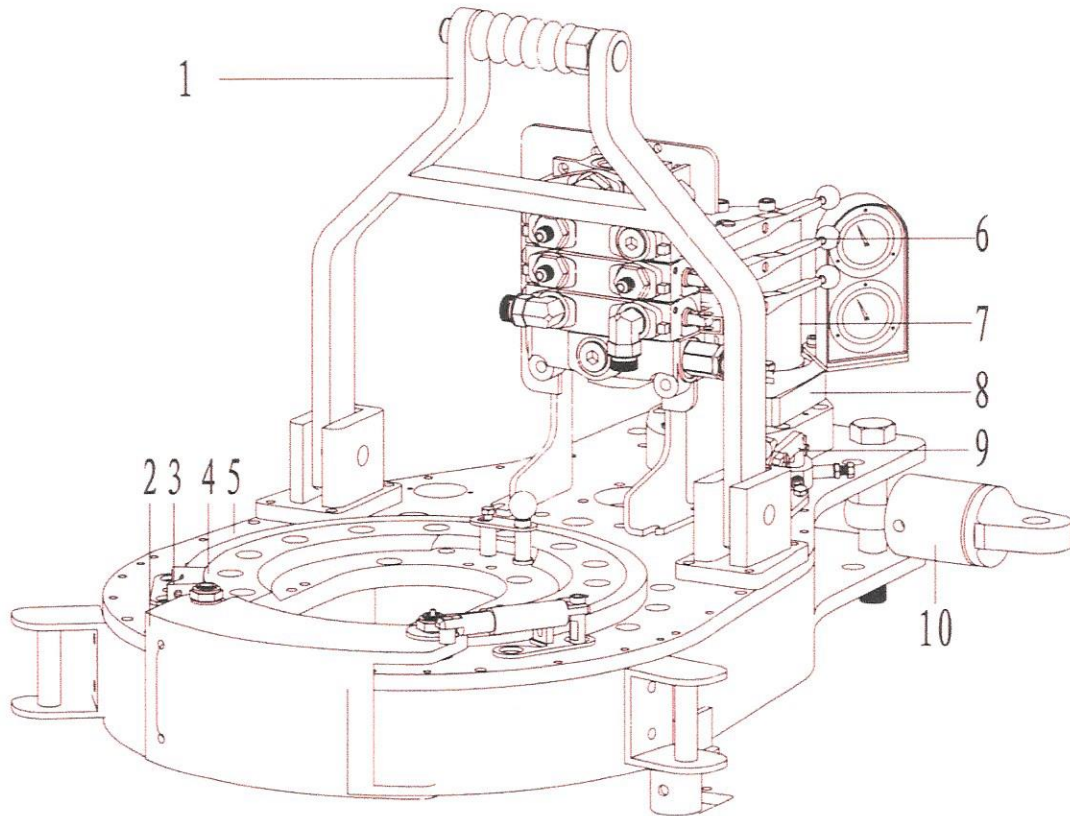
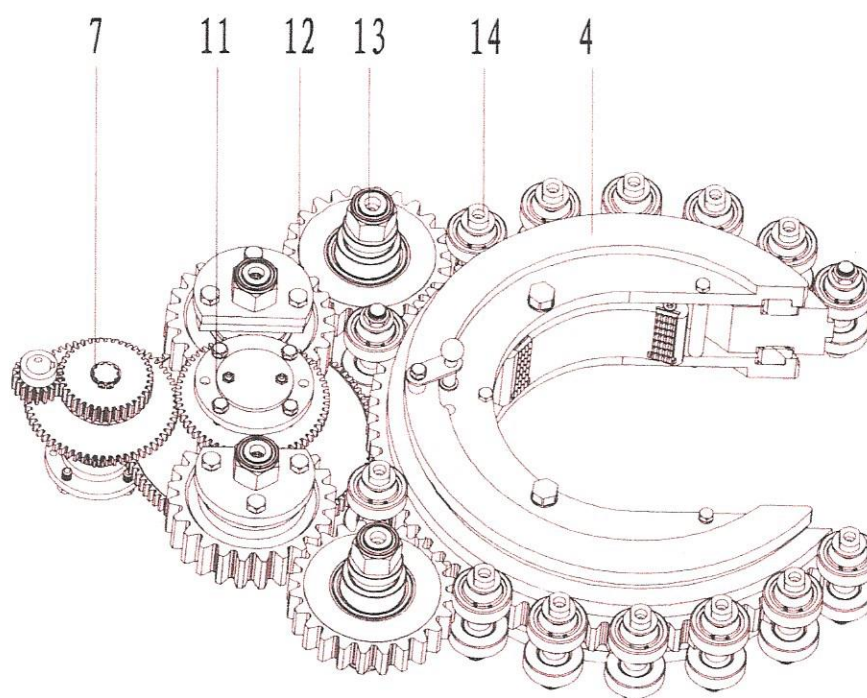

Fig. 2
Fig. 3
7.1 KHT8625 Master tong assembly(Fig.2, Fig.3, Table.2)